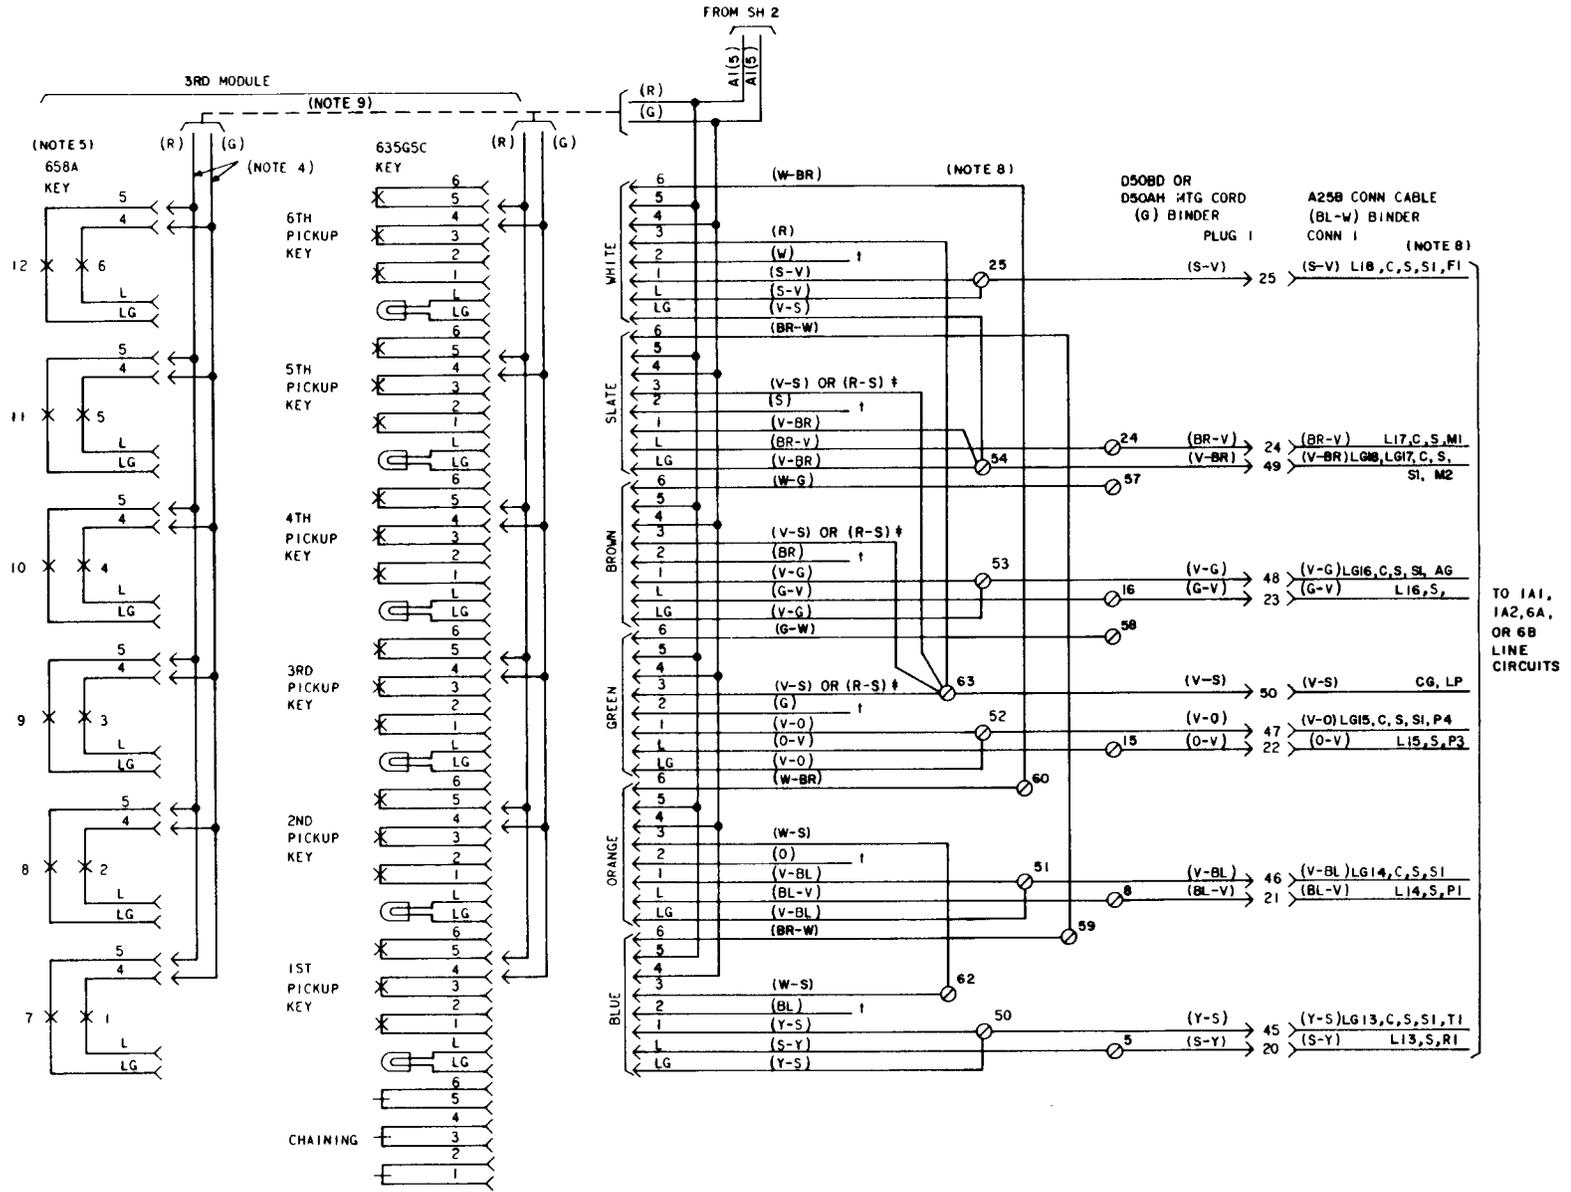

Fig. 3—634DA (MD), DAM (MD), DAMS Telephone Set Module and Connector Cable Arrangements (Sheet 3 of 3)
**2.04** Because of the physical arrangement of the 635-type key, the contact strips do not extend to the chaining switch. This requires additional A1 leads to each module (except the last), to extend A lead. See Fig. 3 sheets 1 through 3 and Fig. 4, sheets 1 through 5.
## NOTES FOR FIGURES 3 AND 4:
1. THE 635AD5C KEY IS SUPPLIED WITH AN ADAPTER IN THE CUTOFF KEY POSITION. IN SETS EQUIPPED WITH D50AH OR D80D (MD) MOUNTING CORD, CONTACT STRIP ASSEMBLIES 840151039 AND 840151047 FURNISHED WITH THE 635AD5C KEY REPLACE THE 840151120 AND 840151138 ASSEMBLIES USED WITH THE 635A5C KEY. THE SLATE MOUNTING CORD PLUG CONNECTS TO THE ADAPTER. BALANCE OF PLUGS CONNECT DIRECTLY TO KEY.
2. IF A 635AD5C KEY IS ADDED IN THE FIELD FOR RINGER CUTOFF, TERMINATE THE (BL-Y) ADAPTER LEAD AS INDICATED IN NOTE 6 AND REMOVE (R) SLATE PLUG LEAD FROM TERMINAL 22, INSULATE AND STORE.
4. IN SETS EQUIPPED WITH A 658A KEY, THE (G) CONTACT STRIP OR PLUG STRAP LEAD IS TERMINATED ON TERMINAL 10 AND (R) ON 11. IF A 658A KEY IS ADDED IN THE FIELD, LEADS MUST BE MOVED FROM PRECEDING MODULE CHAINING CIRCUIT TO TERMINALS 10 AND 11. PROVISIONS ARE MADE FOR MECHANICALLY STORING THE LIGHT BEIGE PLUG ON THE 658A KEY. NO ELECTRICAL CONNECTION IS MADE.
8. CONTROL LEADS CA THROUGH CH, AND CJ ARE CONNECTED TO TERMINAL 57 THROUGH 65. THESE TERMINALS APPEAR ON MORE THAN ONE OF THE MODULE SHEETS OF FIG. 3 AND 4 BUT ARE THE SAME TERMINAL.
9. THESE CONTACT STRIPS ARE REQUIRED WHEN TELEPHONE SET IS EQUIPPED WITH THE D50AH (MD) OR D80D (MD) MOUNTING CORD. THESE CONTACT STRIPS SHOULD NOT BE USED WHEN TELEPHONE SET IS EQUIPPED WITH THE D50BD OR D80E MOUNTING CORD.